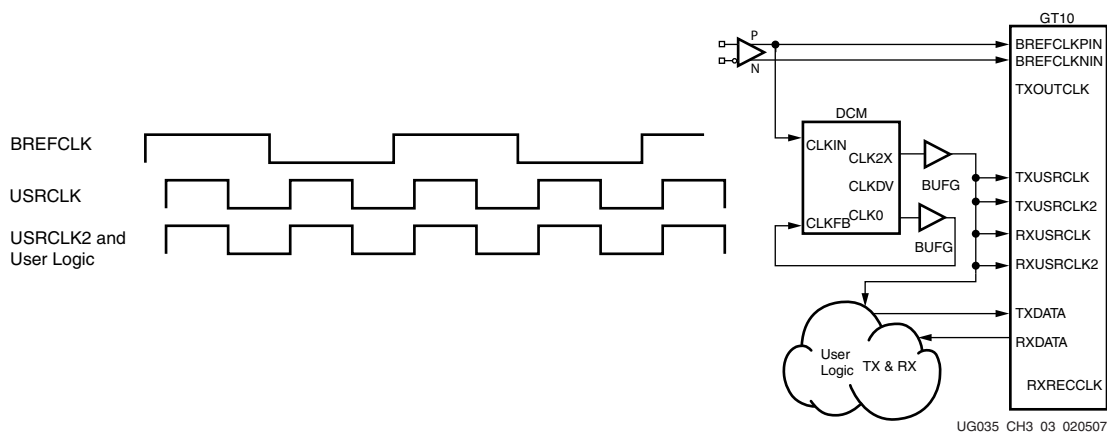
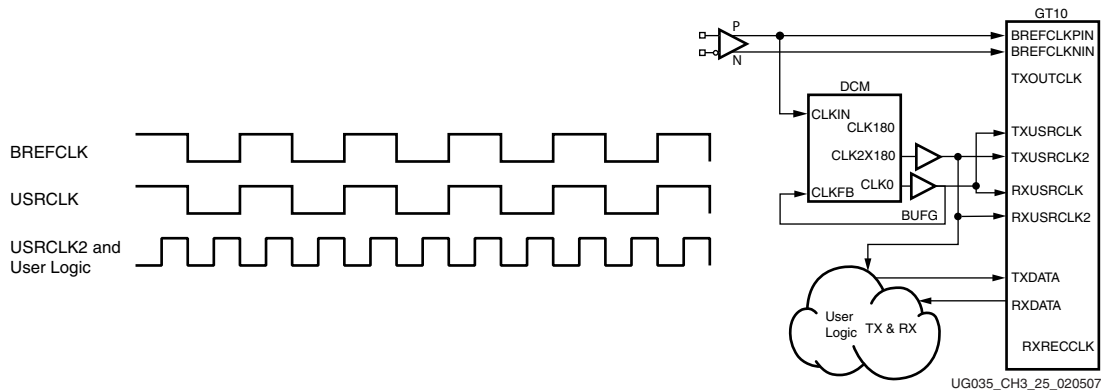

Figure 3-2: BREFCLK 0:1:1
Figure 3-12: **BREFCLK 1:1:2**
**Note:** The examples shown in Figure 3-2 through Figure 3-12 are valid for BREFCLK configurations. These examples can be used for REFCLK configurations, but published performance cannot be met.